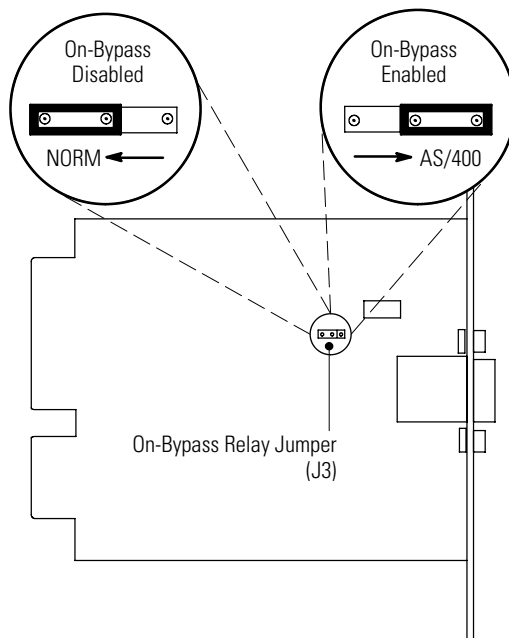

Figure 37. On-Bypass Relay Jumper
2. Move the J3 jumper to the AS/400® position to enable the On-Bypass relay, as shown in Figure 37.